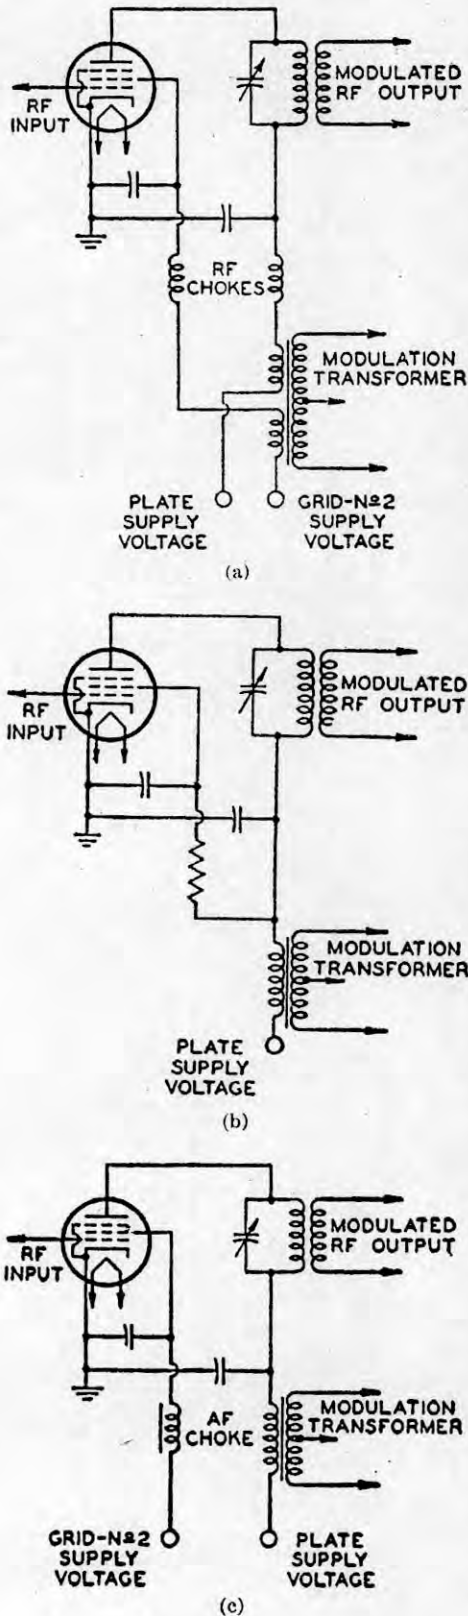

Fig. 24
supply, the method shown in Fig. 24(a) may be used. If screen-grid voltage is obtained from the plate supply through a series resistor, the resistor should be connected to the modulated side of the plate supply circuit, as shown in Fig. 24(b). In all such cases, the modulator must be capable of supplying a power at least equal to one-half the combined dc inputs to the plate and screen-grid circuits.
A circuit in which modulation power is applied only to the plate of a beam power tube is shown in Fig. 24(c). The reactance of the af choke at the lowest modulating frequency should be at least equal to the dc screen-grid voltage divided by the dc screen-grid current.
Example (2): Determine the amount of af power, W_o , required for 100-per-cent simultaneous plate and screen-grid modulation of a single 813 class C amplifier operating under ICAS conditions. (Values are given in the technical data for the 813 under Plate-Modulated RF Power Amplifier—Class C Telephony, Typical Operation.) Screen-grid voltage for the 813 is obtained through a series voltage-dropping resistor from the plate supply, as shown in Fig. 24(c).